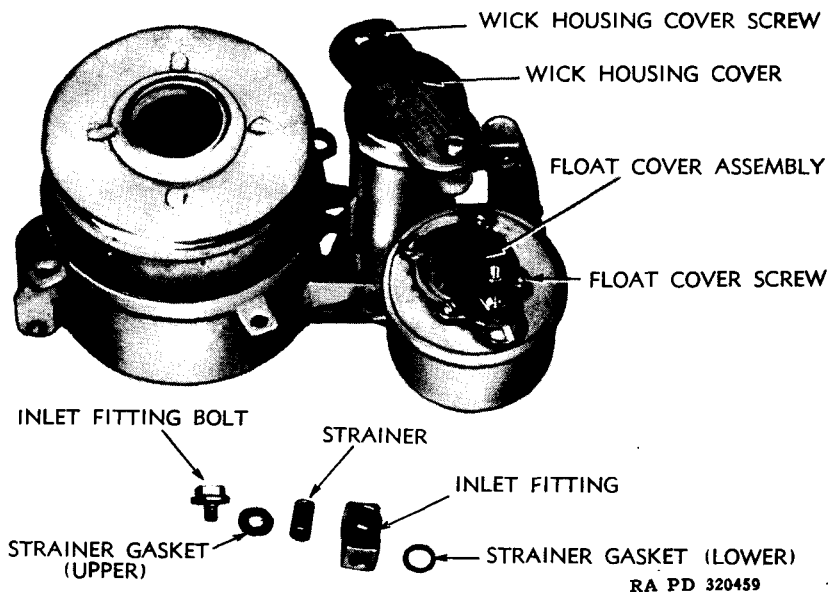

Figure 45 — Burner Assembly—Top View
c. **Remove Float Valve Assembly.** Remove inlet fitting bolt (fig. 45) and lift off upper strainer gasket, strainer, inlet fitting, and lower strainer gasket. Remove four screws and lock washers holding float valve assembly to burner assembly.
c. Install Float Valve Assembly. Hold float valve seat with external threaded end up, and install a strainer lower gasket over threads. Then install needle valve into seat with drilled hole end up, and insert small spring into drilled hole. Turn float cover assembly right side up, screw valve assembly into bottom of float cover, and tighten securely. Install new float cover gasket onto float bowl. Install float assembly with four screws and lock washers (fig. 45). Install strainer lower gasket, inlet fitting, strainer, strainer upper gasket, and inlet fitting bolt (fig. 45).